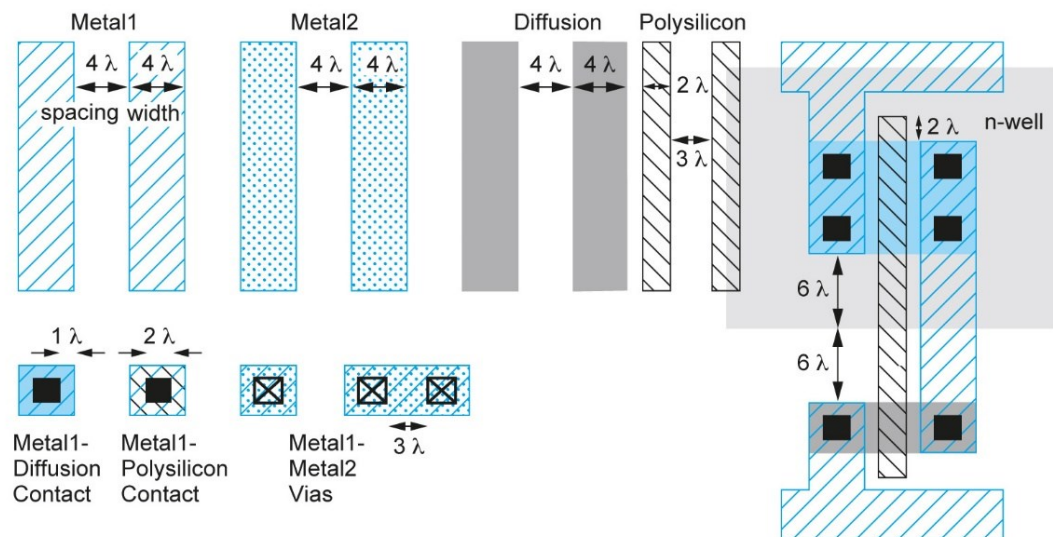

FIGURE 1.39 Simplified λ -based design rules
1. (50%) Draw the layout (in a standard cell layout style like the NAND3) of the schmitt trigger that you design at HW1 using the design rules of table 3.3 with a scale factor of $32/65$ for 32 nm case for all rules. Use the style as shown in Fig.1.39 to show each layer. You should include substrate contact in your layout. List the square area ($? \mu\text{m}$ by $? \mu\text{m}$) of your rectangular cell. Also, in your layout, mark at least five rules as that shown in Fig.3.19. (Do your best to have a compact layout and list the X and Y size. The size of the area will not affect your score)